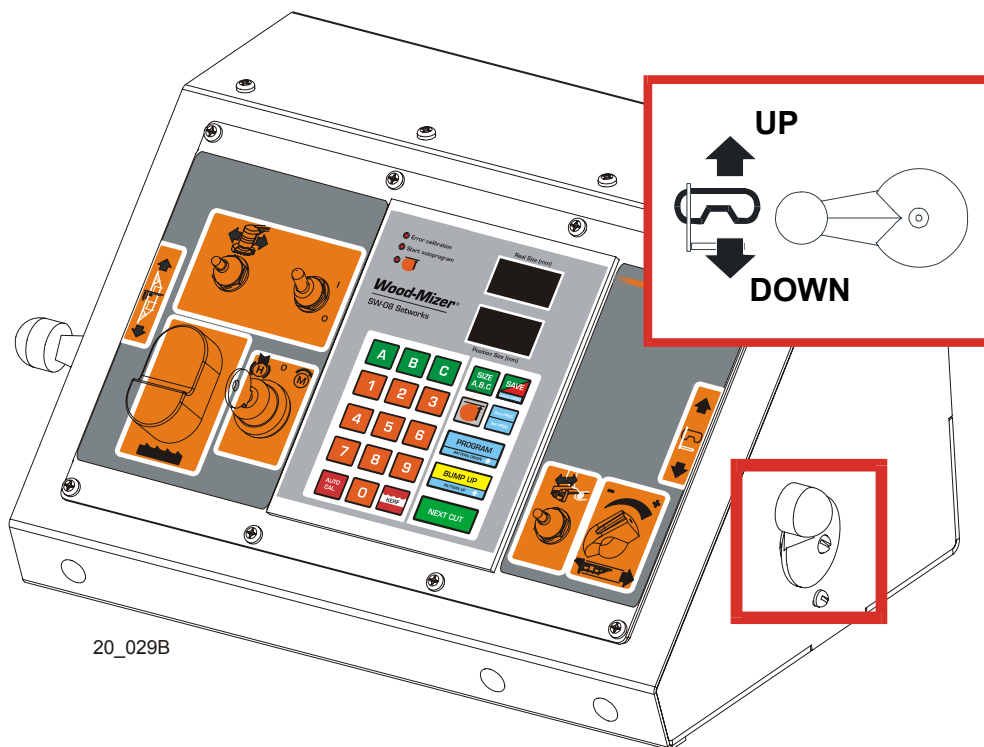

FIG. 2-7
**See Figure 2-7.** The up/down switch is located on the right side of the control panel. Push the switch up to raise the cutting head; push the switch down to lower the cutting head. Hold the switch in position until the cutting head reaches the desired height, then release.